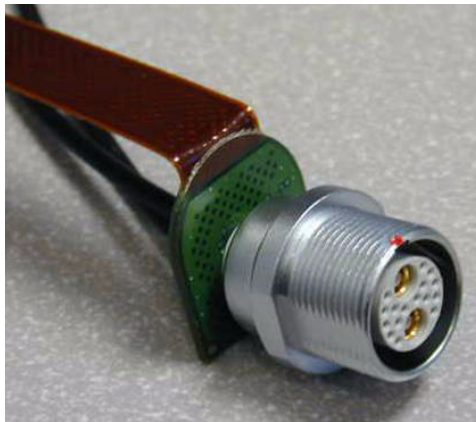

Figure 6-4 Creating a sharp bend
- Create a sharp bend (Figure 6-4): The flex circuit must be bent at a right-angle where it meets the printed circuit board. It can only be bent after heat has been applied to it (i.e. using a hot-air gun or a similar device).